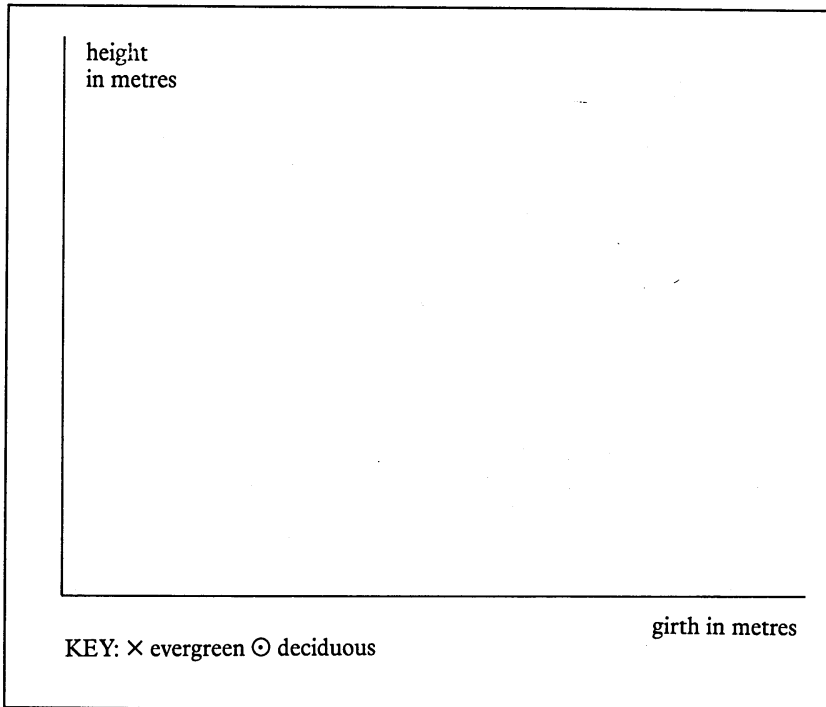

Figure 5
- 6 (a) Plot height (y axis) against girth (x axis) for each tree in Table 1. Use the axes shown in Figure 5. Use crosses (x) to plot the values for evergreen trees and dots (o) for deciduous ones.